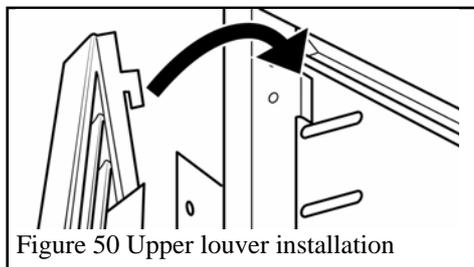

Figure 50 Upper louver installation
- Attach the upper louver by hooking over the tabs near the top of the firebox sides. See figure 50.